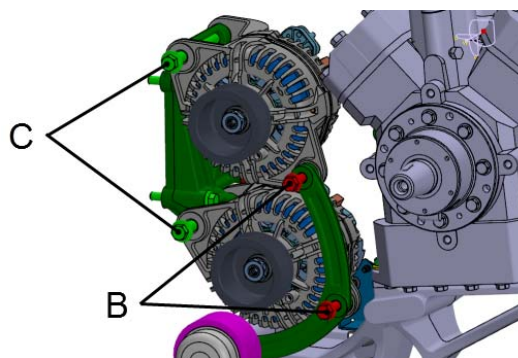

FIGURE 16
23. Install the alternators. Fix lower and upper alternators loosely to alternator supports using bolts **C**. Also, mount arched support loosely onto alternators using bolts **B** (FIGURE 16).